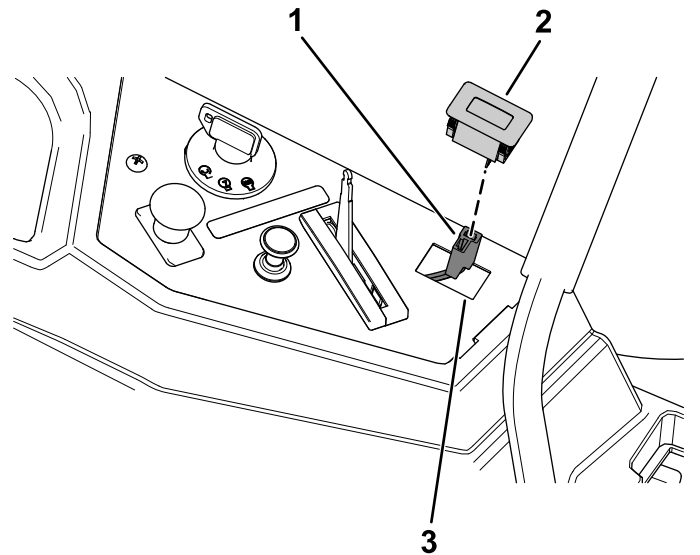

Figure 4
4. Connect the hour meter to the wire harness (Figure 4).
Insert the 2 perpendicular prongs of the hour meter into the 2 slots in the hour-meter connector as shown in Figure 4.
5. Install the hour meter into the cutout (Figure 4).